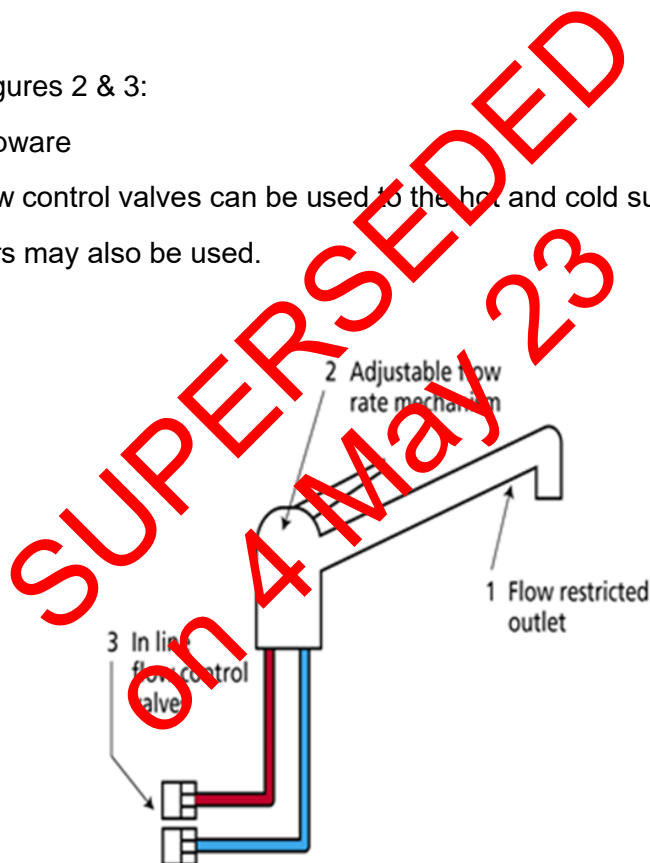

Figure 4: Single lever mixer with incorporated flow restriction
- Mixer taps with a single lever control and common outlet, refer to Figure 4;
Explanatory Notes: Figure 4: